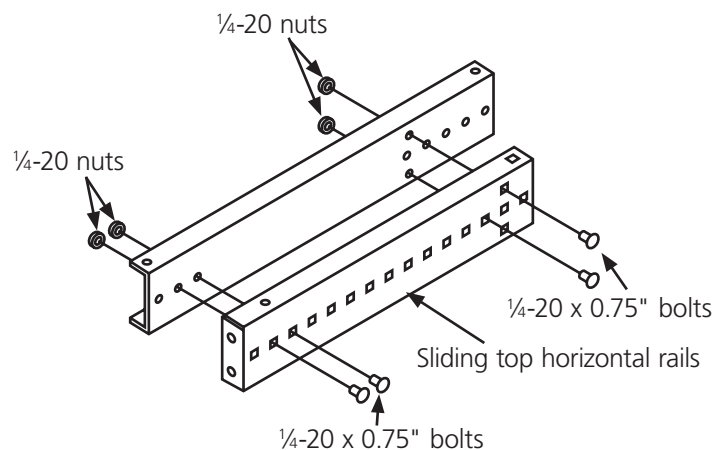

Figure 3. Horizontal rails adjusted to 17.75" (45.1 cm) deep.
4. The rack's depth can be adjusted in 1" (2.5-cm) increments. Connect the first set of sliding top horizontal rails together using (4) $\frac{1}{4}$ -20 x 0.75" bolts and (4) $\frac{1}{4}$ -20 nuts. Using (4) more $\frac{1}{4}$ -20 x 0.75" bolts and $\frac{1}{4}$ -20 nuts, connect the second set of sliding top horizontal rails together.
Next, connect the first set of sliding bottom horizontal rails together using (4) $\frac{1}{4}$ -20 x 0.75" bolts and (4) $\frac{1}{4}$ -20 nuts. Repeat this for the remaining set of sliding bottom horizontal rails (you'll use (4) $\frac{1}{4}$ -20 x 0.75" bolts and (4) $\frac{1}{4}$ -20 nuts). Figures 3 through 7 show five possible depth adjustments for these rails.